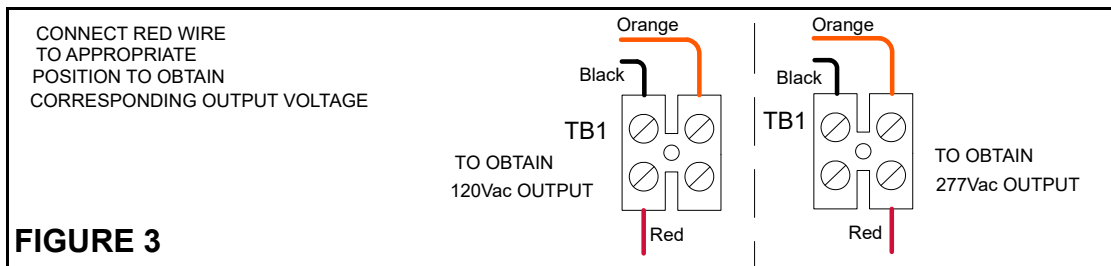

**FIGURE 2**
- a. Mini Inverter with option -4 can control four individual circuits (see figure 2).
- e. **Power supplied to the switched inputs must be fed from the same branch circuit as the unswitched input (see figure 2).**
- f. Unit is shipped from factory pre-set for 120V in // 120V out and configured for Normally-On load operation (see figure 2). This configuration can be changed to fulfill customer's application.
### STEP 2: CONFIGURATION OF OUTPUT VOLTAGE (SEE FIGURE 2 AND 3)